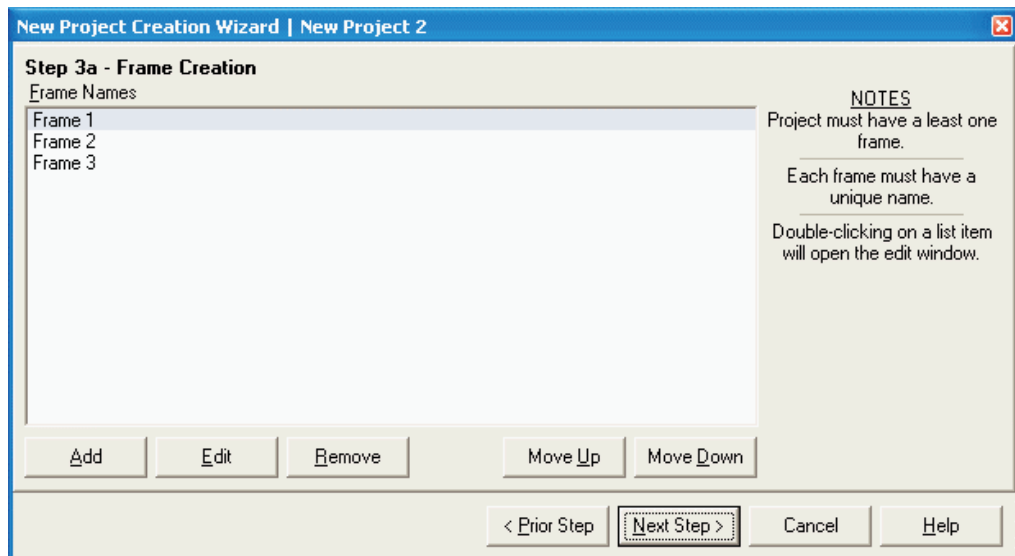

Figure 16 - New Project Creation Wizard
**Step 3a - Frame Creation** (Project must have a least one 540-frame.) (See Figure 16)
*Phone: (502) 267-7436 • Fax: (502) 267-9070 • Internet: <http://www.iedaudio.com>*